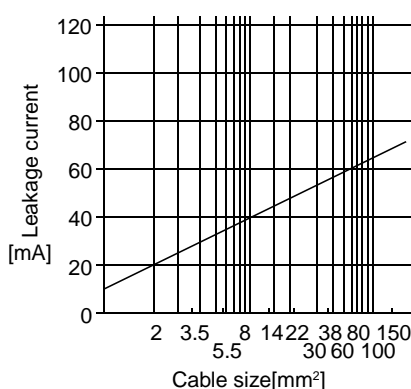

Fig. 11.1 Leakage current example (I_{g1}, I_{g2}) for CV cable run in metal conduit
- I_{g1}: Leakage current on the electric channel from the leakage current breaker to the input terminals of the servo amplifier (Found from Fig. 11.1.)
- I_{g2}: Leakage current on the electric channel from the output terminals of the servo amplifier to the servo motor (Found from Fig. 11.1.)